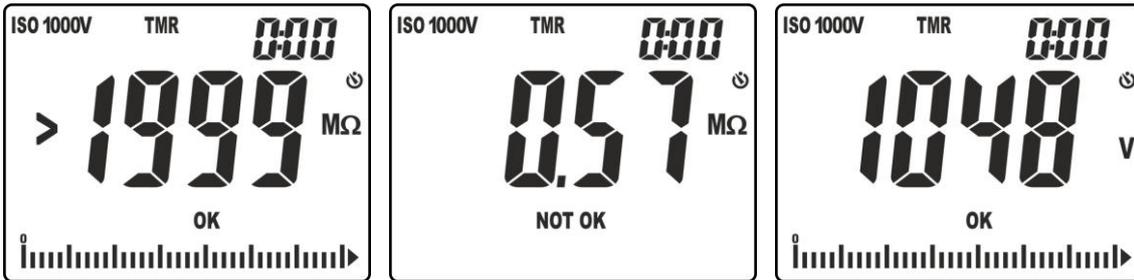

Fig. 21: Results of insulation measurement in TMR mode
9. In the screen in Fig. 21 – left side, the value of insulation resistance is present (symbol " >1999 " indicates the out-of-range condition) at the end of measurement with positive result "OK" (value higher than the set threshold). In the screen in Fig. 21 – right side, the value of insulation resistance is present at the end of measurement with negative result "NOT OK" (value lower than the set threshold).